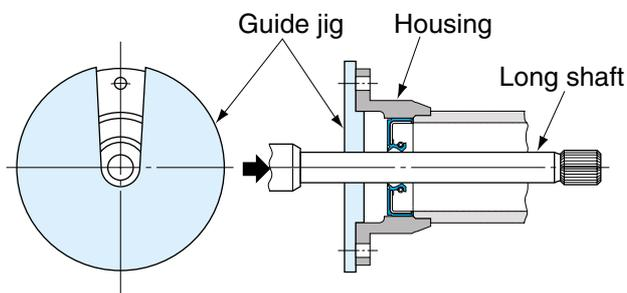

Fig. 1.7.8 Guide jig for inserting of long shaft into seal bore
8) When heavy housing with seal is assembled with shaft, or when long or heavy shaft is inserted into seal, seal damage should be avoided. Use the following guide jig to get centering (Figs. 1.7.8 and 1.7.9).